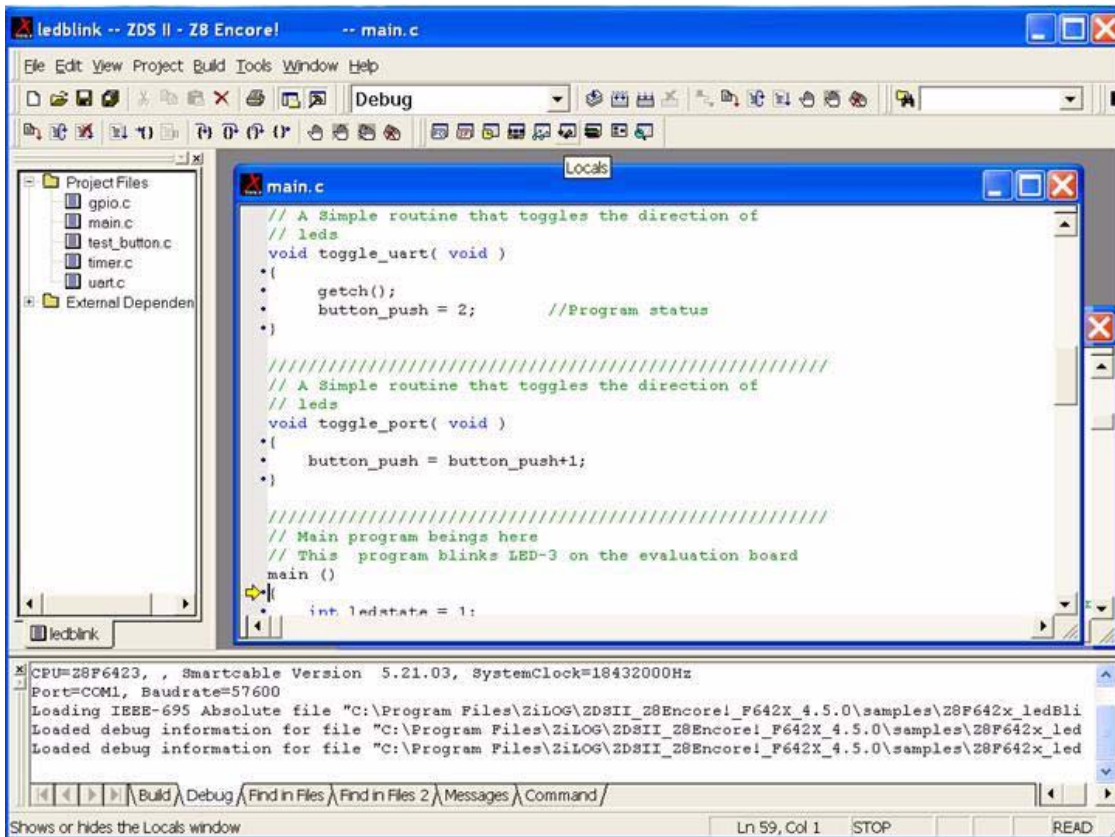

Figure 7. ZDS II Active Screen
10. Click on Go to start the program. The screen changes as illustrated in Figure 7.